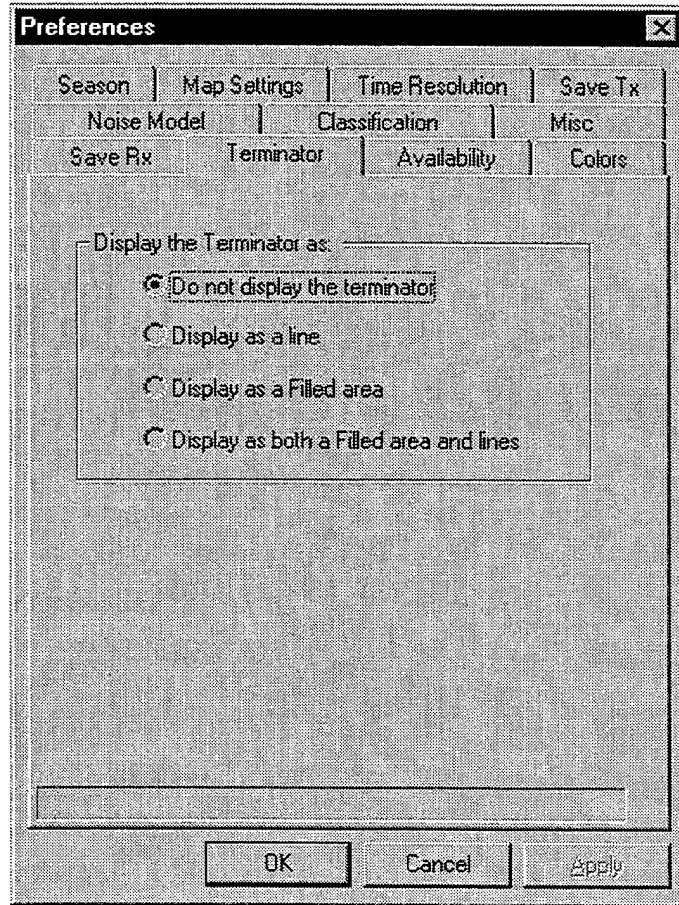

Figure 34. Terminator preference page.
The Terminator preference page (figure 34) turns the display of the day/night terminator on or off for coverage charts. If the terminator display is on, three different displays may be selected: (1) a line only representation of the day/night terminator, (2) a filled representation of the terminator (filled areas are night), and (3) a filled area and line representation of the terminator.